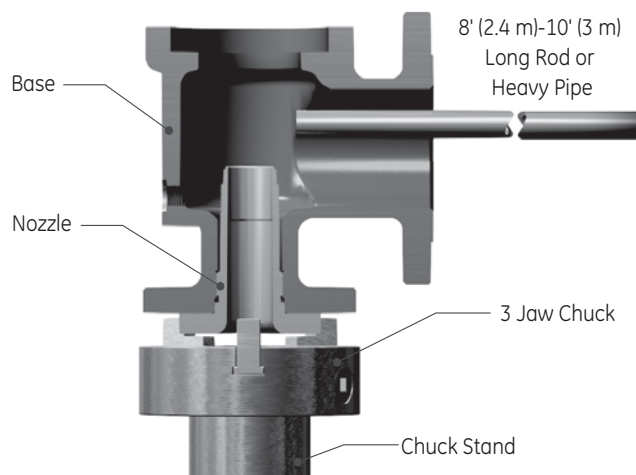
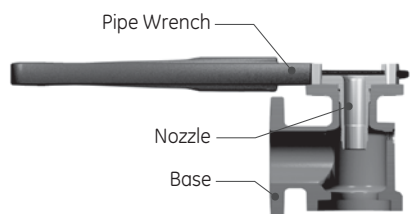

Figure 25: Loosening the Nozzle from the Base
Figure 26: Removing the Nozzle from the Base
17. Using a three- or four-jaw chuck welded vertically to a stand bolted to a concrete floor, clamp the nozzle into the chuck and break the body loose with a heavy rod or pipe (Figure 26).
18. Use a large pipe wrench on the nozzle flange to remove the nozzle from the base (Figure 25).
19. Remove the Nozzle from the Valve Base as suggested in Figure 25, or by using a Hex wrench or a pipe wrench on the flange as indicated in Figure 26.